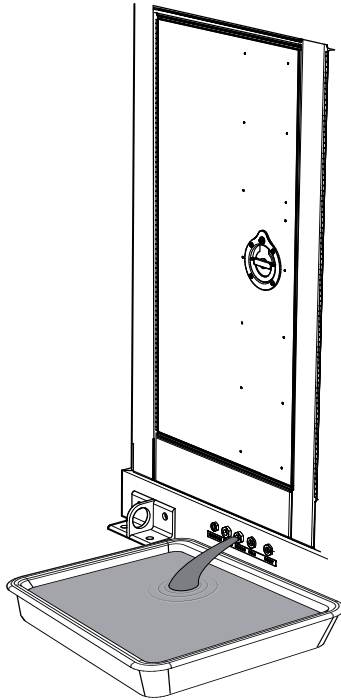

Figure 52. Draining Hydraulic Fluid
1. To drain the hydraulic fluid, remove the hydraulic fluid drain plug located at the base of the skid as shown in Figure 52 and allow the fluid to drain into a suitable container.